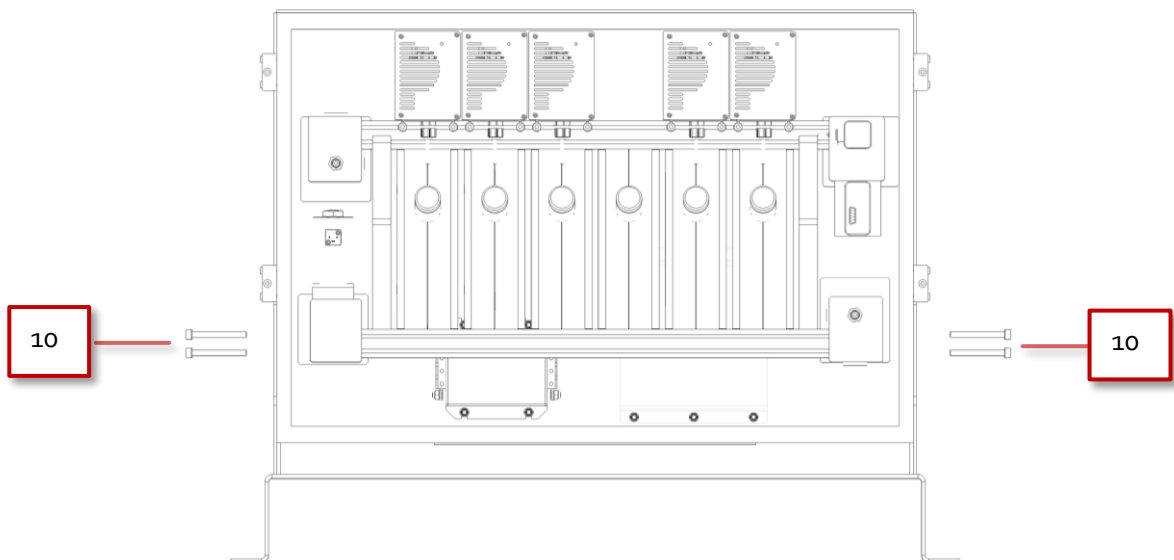

Figure 76 Remove the screws holding the bottom connection bar
- Remove the four screws on each side of the bottom connection bar (M6), see Figure 76.